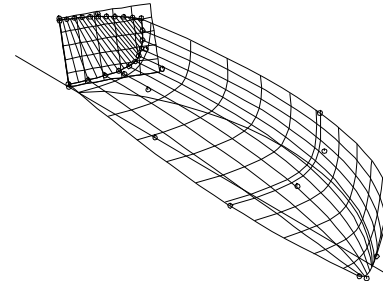

Fig. 36
- 1 **Open CylTran.** This is a 3-master curve C-spline Lofted hull derived from DEMO by replacing the last master curve with a snake on a cylinder (Fig. 36).